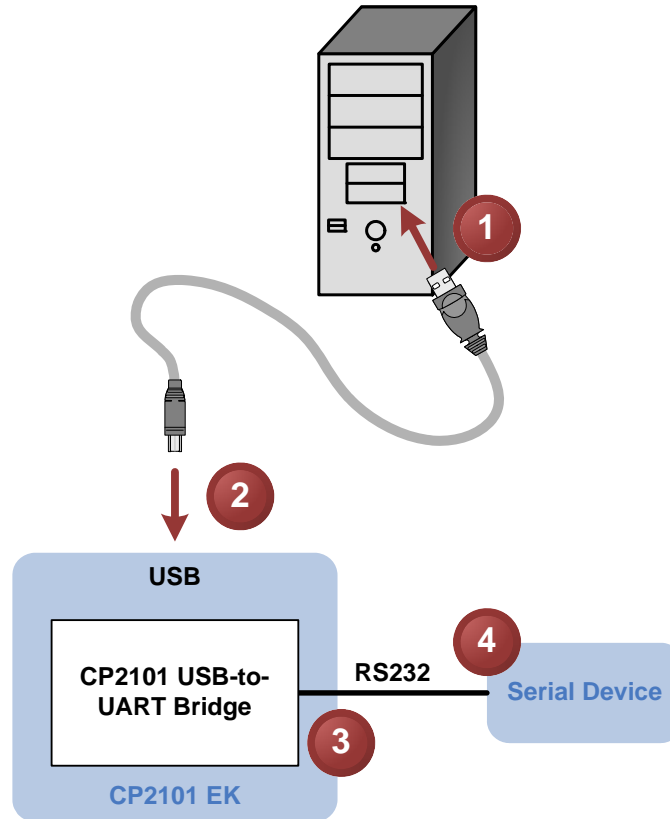
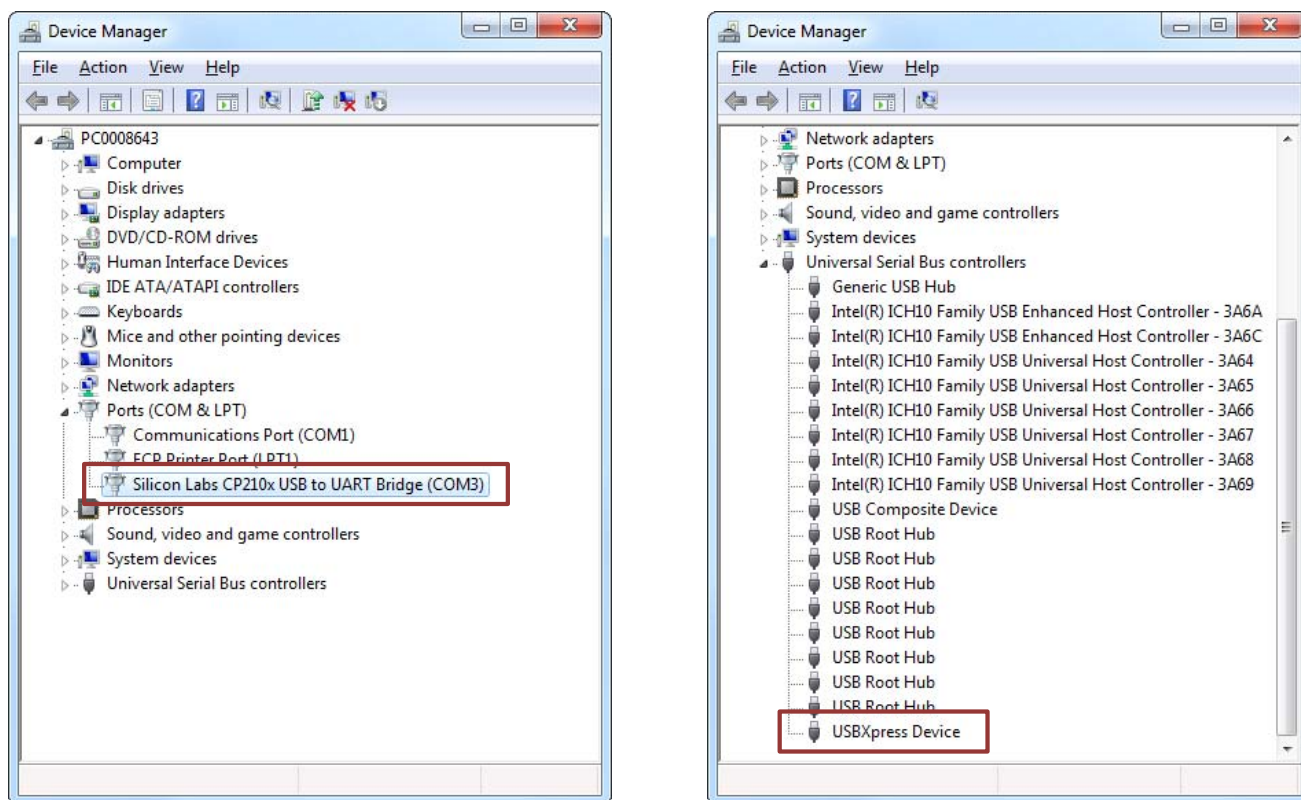

Figure 1. Hardware Setup
Figure 2. CP2101 in Device Manager
The evaluation board is connected to a PC as shown in Figure 1.
If the Virtual COM Port drivers are used, the CP2101 will appear as a COM port in the Device Manager, as shown in Figure 2. The CP2101 will always use the lowest available COM port for operation. For instance, if COM ports 1 and 2 are in use by other peripherals and applications, the CP2101 will use COM 3.
If the USBXpress drivers are used, the CP2101 will appear as a USB USBXpress device as shown in Figure 2. Examples for how to communicate with the device using the USBXpress interface are included in AN169 on the [www.silabs.com/interface-appnotes](http://www.silabs.com/interface-appnotes) page.
- Updated Figure 1 and Figure 2.